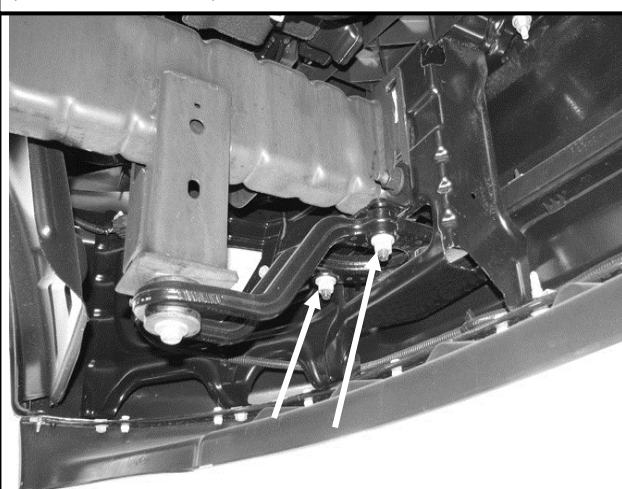
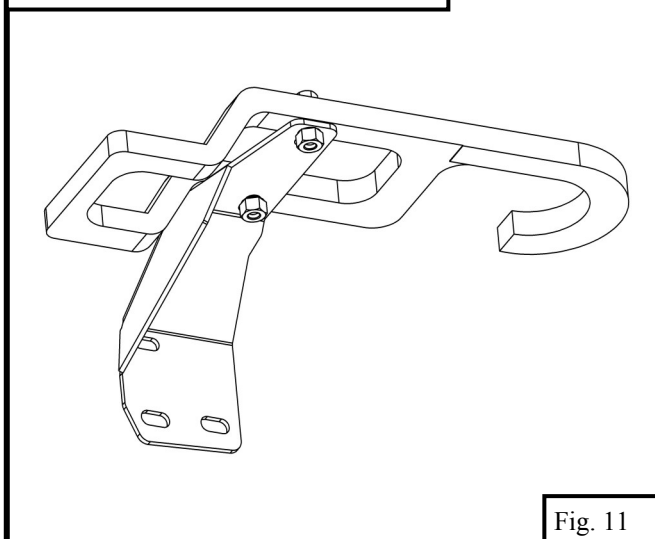

Fig. 10
Fig. 11
- B. **Vehicles with tow hooks:** Remove the stock nuts shown in **Figure 10** and place the lower mounting bracket up against the tow hook (**FIG 11**). Make sure to align the holes of the bracket with those of the tow hook. Secure the bracket to the tow hook by re-using the stock hardware.